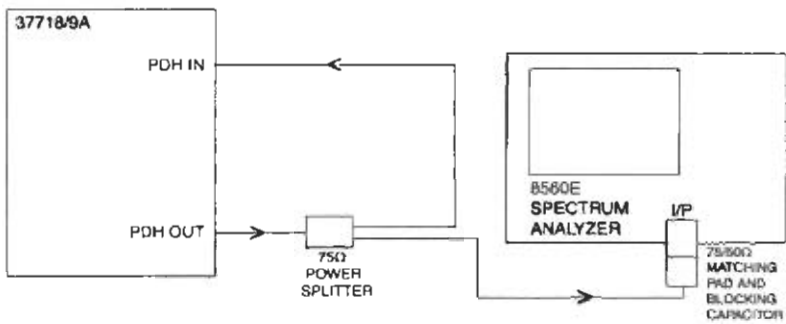

Figure 3-6 PDH Tx/Rx Jitter Test Setup
- 1 Connect up the equipment as shown in Figure 3-6.